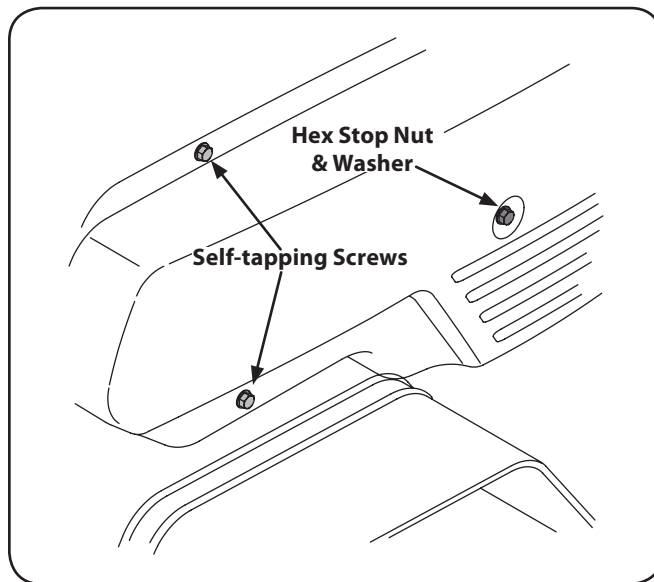

Figure 7-1
2. Remove the belt cover from the left side of the tiller by removing the two self-tapping screws and hex stop nut and washer. See Figure 7-1.